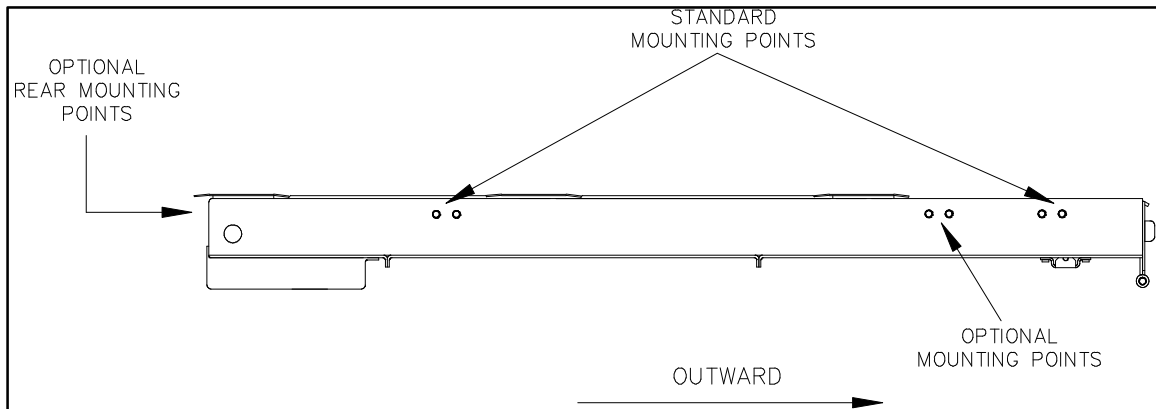

FIGURE 2-1: MOUNTING HOLES
- Refer to Figure 2-1. Mechanical support of ramp must be provided at four (two on each side) attachment points. Each attachment point uses two screws.